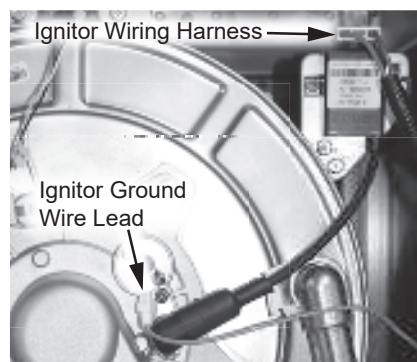

Figure 57 - Ignitor wiring harness location
4 Locate the ignitor wiring harness and ignitor ground connection. See Figure 57. Disconnect them and move the wires aside.
6 Locate and remove the two (2) screws securing the grounding wires to the grounding plate. See Figure 57. Do not remove the third ground connection that is not part of the wiring assembly. Place screws aside in a safe place for reinstallation.